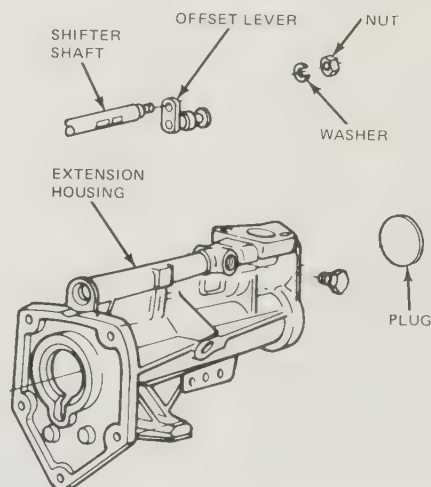

Fig. 6.3. Extension housing components (Sec. 3)
- 5 Working through the access hole, remove the offset lever retaining nut and washer and remove the lever (see Fig. 6.3).